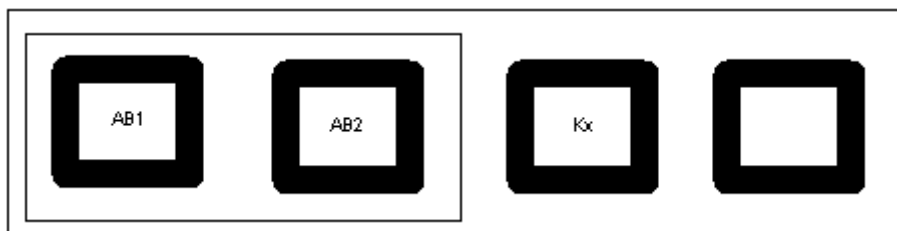

Fig. 115 Display of 5 alarm images (for example)
- If all alarm monitors are occupied, then the new alarm is added to the stack (see Fig. 115).